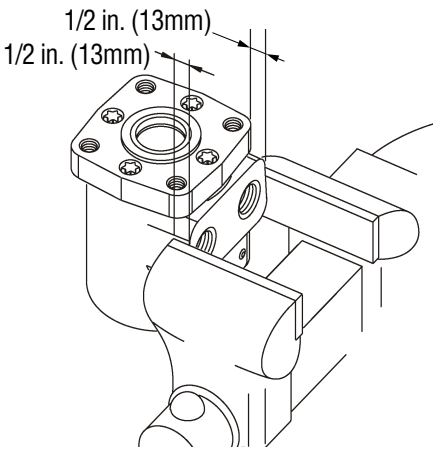

Figure 5-21, Motor Port Clamping
1. Remove the motor from gearbox. Clean the outside of the motor. Service the motor in a clean, dust-free work area. When clamping, use a protective device on the vise such as special soft jaws, pieces of hard rubber or board. (Figure 5-21)
2. Place the motor in a vice and clamp across the edge of the flange with output shaft up. (Figure 5-21) Do not clamp on the side of the housing.